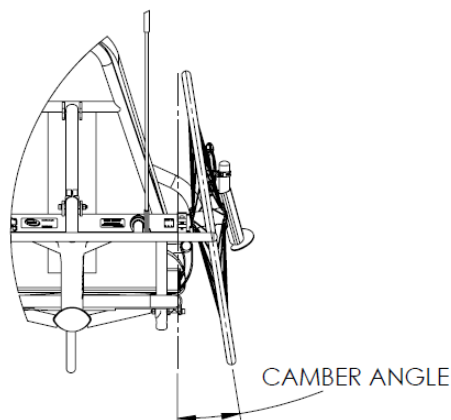

Figure 1
1. Camber Angle: (+/- 0.5 degrees) Measured from vertical to the angle of the rear tire on one side. Also, stamped on bushing. See Figure 1.